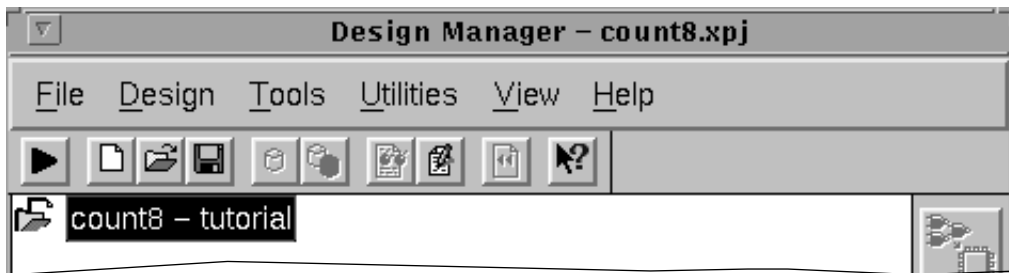

Figure 2-1 Project "count8 - tutorial" Begun
7. Click OK. This closes the New Project dialog and updates the Design Manager with the specified project. Refer to Figure 2-1.